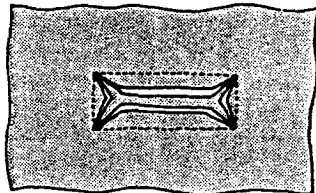

Fig. 2
2. Slash through patch and garment to within 1/4" of ends of rectangle. Carefully cut diagonally into corners as shown. (Fig. 2)